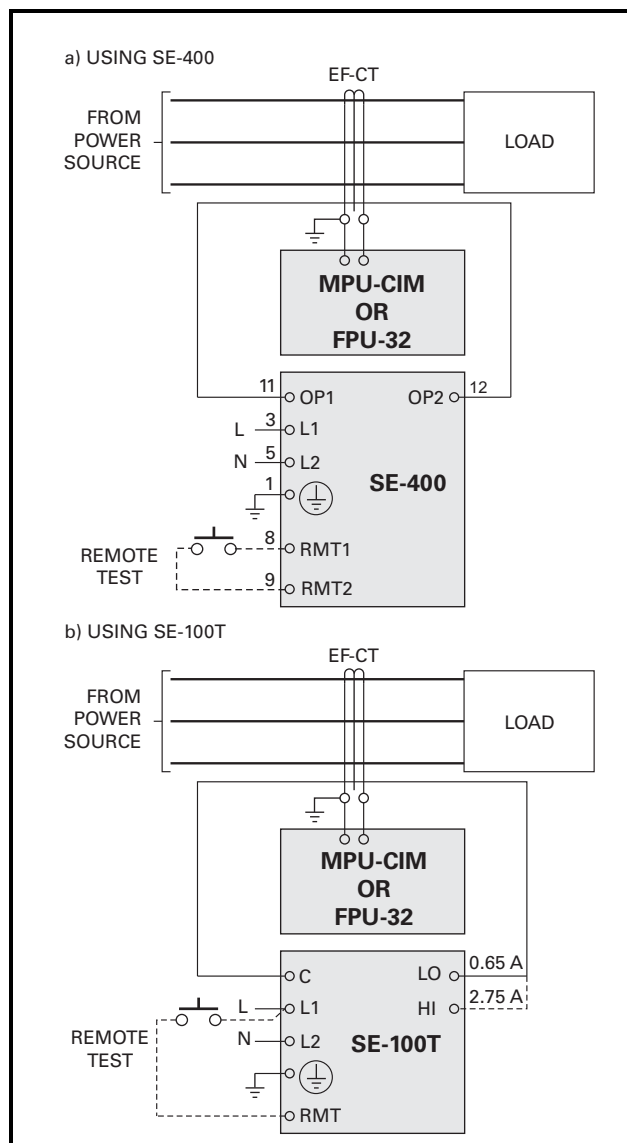

FIGURE F.1 Ground-Fault-Test Circuits.
- Verify proper reaction of the circuit-interrupting device in response to a simulated or controlled ground-fault current. To simulate ground-fault current, use CT-primary current injection. Fig. F.1(a) shows a test circuit using an SE-400 Ground-Fault-Relay Test Unit. The SE-400 has a programmable output of 0.5 to 9.9 A for a duration of 0.1 to 9.9 seconds. Set the test current to 15% greater than the FPU-32 trip setting. Fig. F.1(b) shows a test circuit using an SE-100T Ground-Fault-Relay Tester. The SE-100T provides a test current of 0.65 or 2.75 A for testing 0.5- and 2.0-A trip levels. Inject the test current through the current-transformer window for at least 2.5 seconds. Verify that the circuit under test has reacted properly. Correct any problems and re-test until the proper reaction is verified.